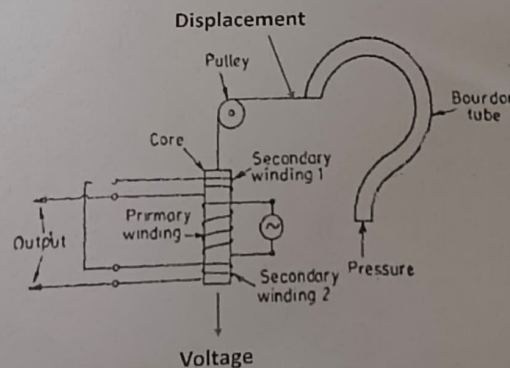

Figure 1 - Bourdon tube-based pressure gauge system
- b) In a Bourdon tube pressure gauge system as shown in figure 1, identify the primary and secondary transducers and explain the role of each. 5